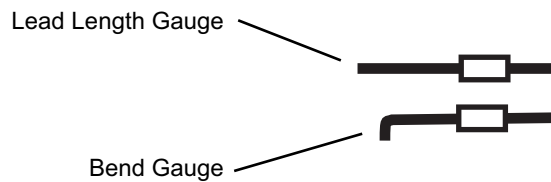

Figure 56 Trim Gauge
- a Place a resistor over the lead length gauge shown in Figure 56. Trim the leads to match the drawing. The orientation of the lead is not important.